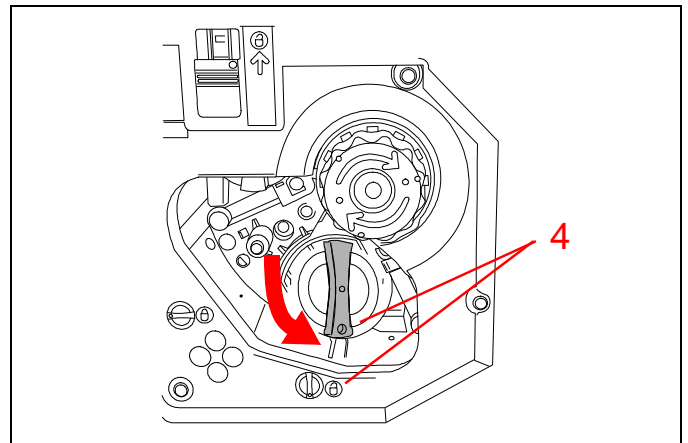

Figure 24
4. See Figure 24. Turn the cartridge handle counter-clockwise to align the “●” mark on the cartridge with the unlocked symbol (🔓) on the copier/printer.